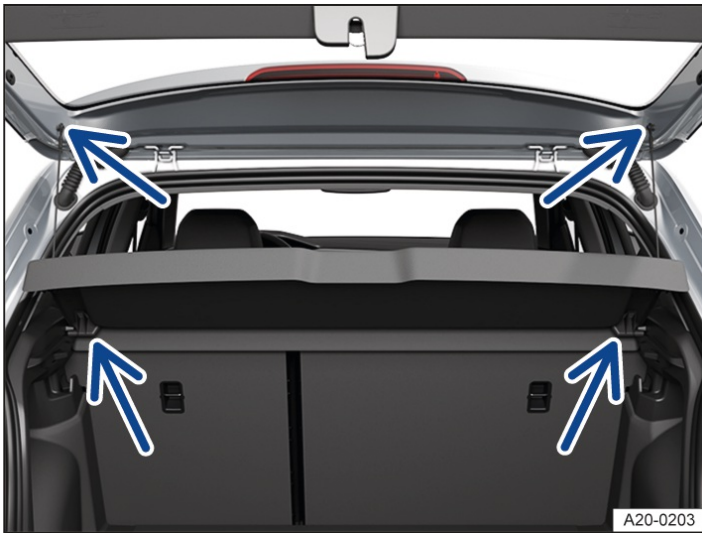

Fig. 1 In the luggage compartment: removing and installing the luggage compartment cover.
1. Unhook the retaining straps at the top on the boot lid → *Fig. 1* (upper arrows).